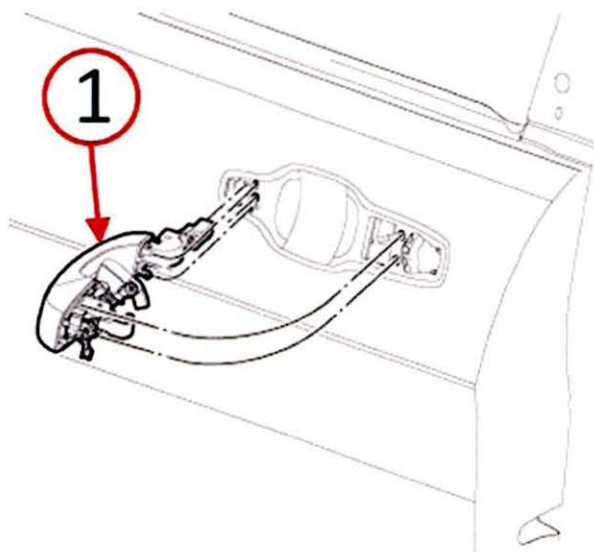

Fig. 4 Install Door Handle
4. Position the exterior door handle to the mounting hole on the outside of the left front door (Fig. 4).